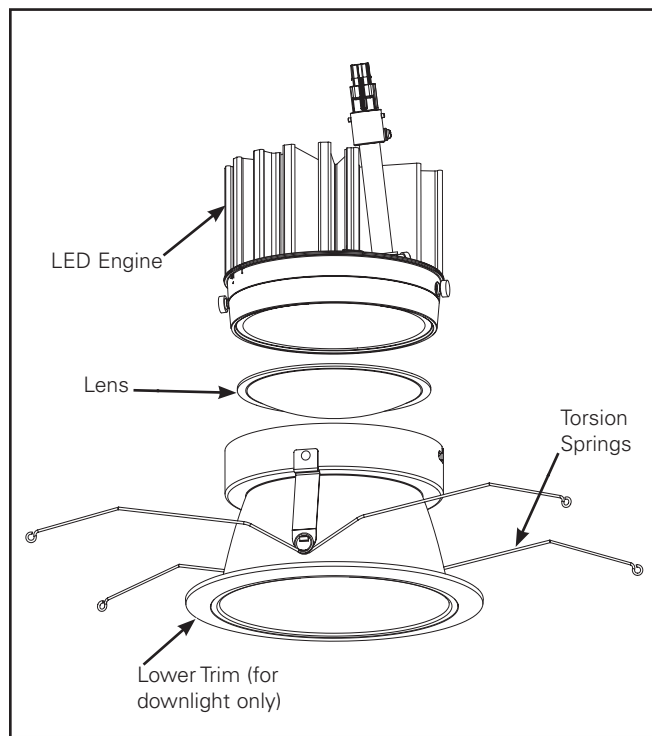

Figure 1. Trim Ring Lower Trim Assembly
1. Remove reflector from protective packaging. Remove plastic trim ring and discard (only if used in a cylinder application). Remove LED engine from protective packaging (Figure 1.).